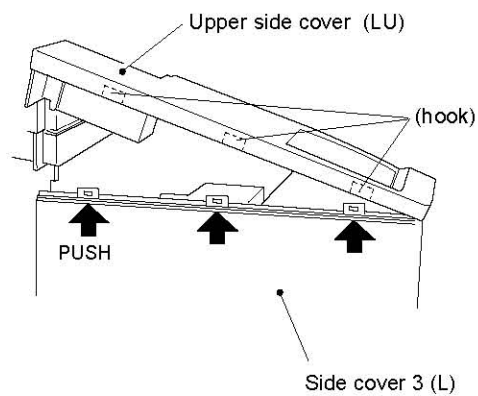

Fig. 7-28
- (1) Open the top cover.
- (2) Remove the set screw BT4x10 securing the upper side cover (LU).
- (3) Press the exterior of the side cover 3 inwards and unlock the hooks (three locations) from the upper side cover (LU). (Fig.7-28)